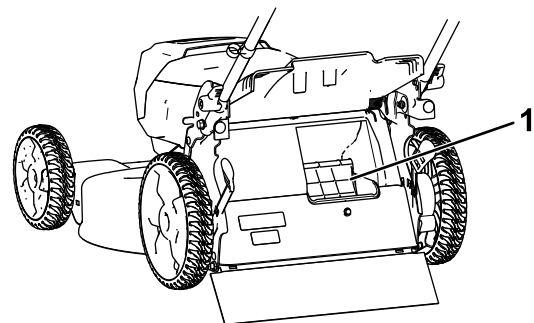

Figure 15
**Important:** For proper operation, remove any grass clippings and debris from the bag-on-demand door and the surrounding opening (Figure 15) before you move the bag-on-demand lever from 1 position to another.